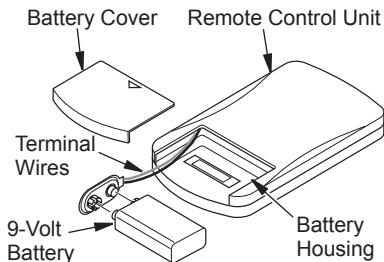

Figure 40 - Installing Battery in Hand-Held Remote Control Unit
1. Remove battery cover on back of remote control unit (see Figure 40).